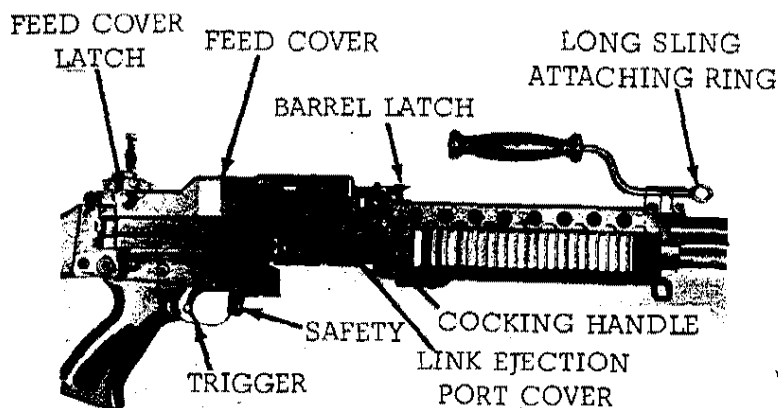

FIGURE 2. BARREL LATCH, FEED COVER LATCH, TRIGGER, AND COCKING HANDLE
a. Barrel Latch. The barrel latch (figure 2) is located on the top of the weapon to the front of the feed cover. It consists of three parts, latch, lockpin and spring assembly. Attached to the rear of the latch is the locking pin which locks and holds the barrel into position.
b. Cocking Handle. The cocking handle (figure 2) is located on the right side of the receiver. This control allows for manual cocking of the weapon when required. The cocking handle spring (figure 19) locks the handle in its forward position.
c. Safety. The safety is located just forward of the trigger (figure 2). When pushed all the way forward through the slot in the trigger guard, the safety is in the "OFF" or "FIRE" position. When pulled all the way to the rear, towards the trigger, it is in the "SAFE" position. This safety can be moved off safe without removing the trigger finger from the trigger guard by pushing forward with the trigger finger.
e. Trigger. The trigger (figure 2) is located below the receiver directly under the rear sight. Its function is to control the firing of the weapon with the selector lever in the "Auto" or "Semi" position.
f. Feed Cover Latch. The feed cover latch (figure 2) is located on the upper right rear end of the feed cover. The function of the latch is to secure the cover in the closed position. Pushing the latch forward unlatches the feed cover from the receiver.